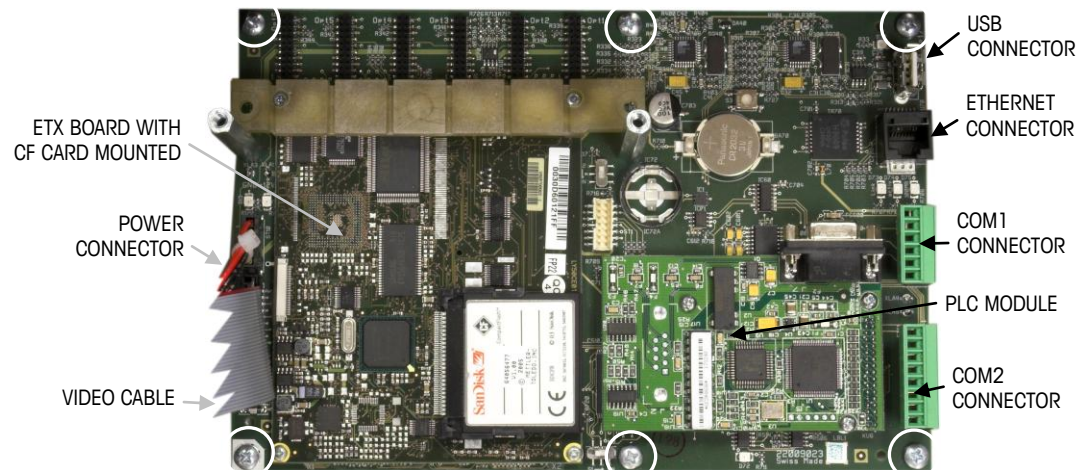
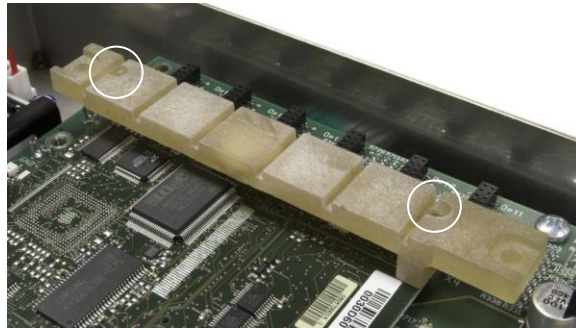
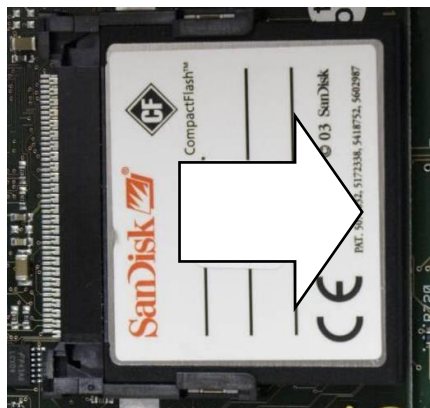

Figure 4-41: Main PCB Connections and Mounting Screws
Figure 4-43: Lower Card Guide Screw Locations
Figure 4-49: CF Card Removal
9. Remove all peripheral connectors from their sockets – COM1, COM2, Ethernet, USB, power and video. Connector locations are indicated in Figure 4-41.
11. Unscrew and remove the six screws holding the main PCB to the enclosure. Their locations are circled in Figure 4-41. In the case of a panel mount terminal, the four outer fasteners will be hex post stand-offs, as shown in Figure 4-42.
1. Remove the two screws holding the lower card guide and the ETX board to the main PCB (Figure 4-41). The locations of these screws are indicated in Figure 4-43.
1. Note the orientation of the ETX board indicated in Figure 4-41. The ETX connectors are arranged so that it cannot be installed backwards.
5. Install screws to secure the board to the main PCB. Two of these screws also attach the lower card guide. This bar is asymmetrical, and must be mounted in the orientation indicated in Figure 4-43. Note that the longer end is oriented toward the main PCB battery.
To remove a CF card from the ETX board, hold the sides of the CF card and carefully slide it out of its socket, in the direction indicated in Figure 4-49. It may be necessary to move the card slightly side to side to disengage it. If any PLC interface module option is installed, it may need to be removed first.
Note that Figure 4-49 and Figure 4-50 show the CF card in the same orientation as in Figure 4-41.